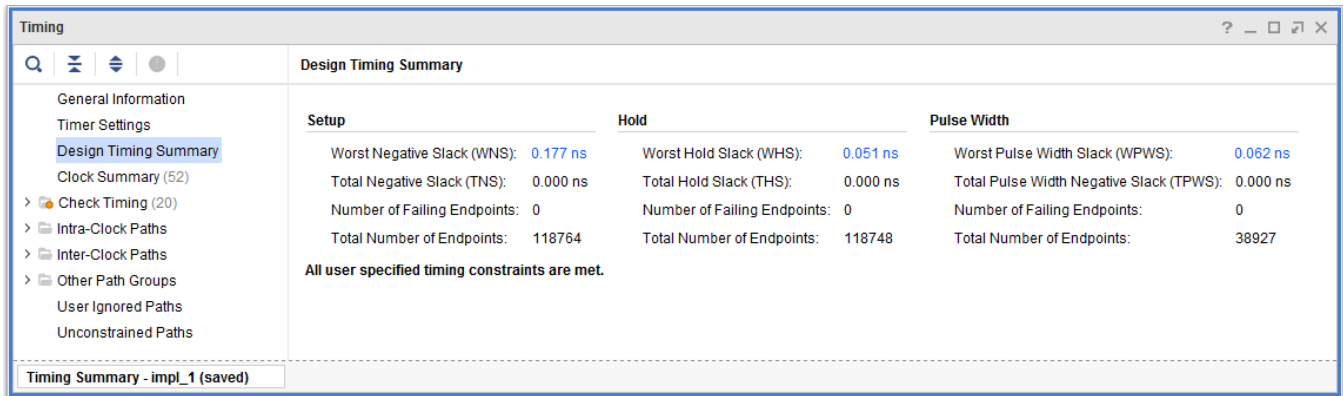

Figure 106: Timing Summary
5. Verify that all timing constraints have been met by looking at the Timing - Timing Summary window, as shown in Figure 106.